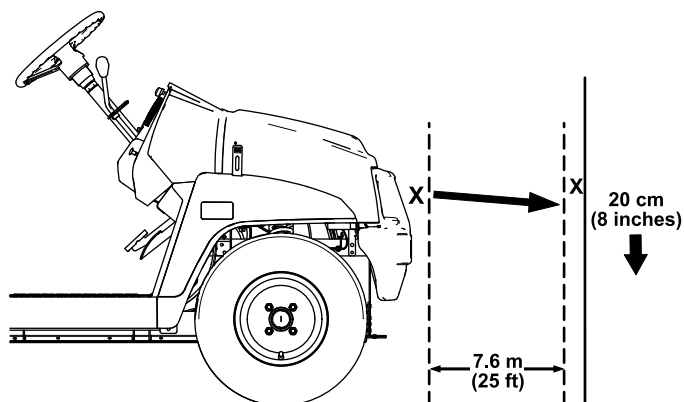

Figure 46
1. Park the machine on a level surface with the headlights approximately 7.6 m (25 ft) from a wall (Figure 46).
The brightest part of the headlight beam should be 20 cm (8 inches) below the mark placed on the wall (Figure 46).